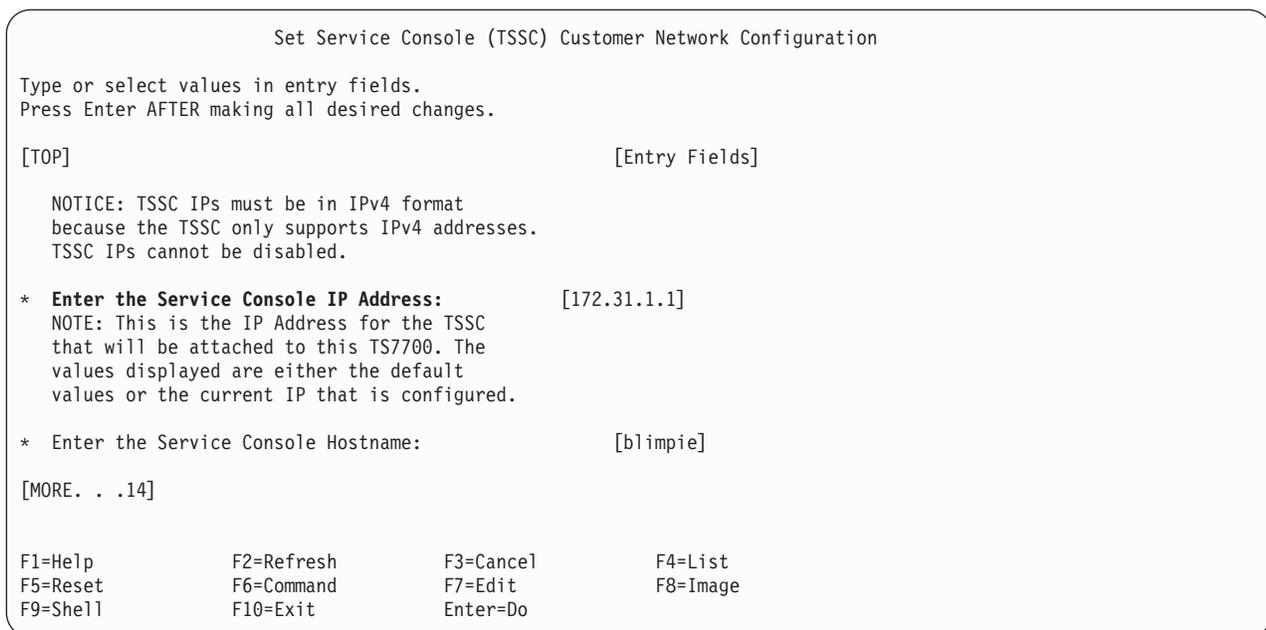

Figure 21. Set Service Console (TSSC) Customer Network Configuration Menu
5. At Figure 21, verify that the Service Console IP address is set to the IP address (defaults to 172.31.1.1).
6. At Figure 21, verify that the TS7700 IP address is set to the IP address 172.31.1.x. The 'x' will be replaced with the IP address that you designated for this subsystem.